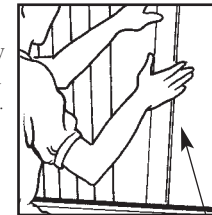

Figure 2. vertical application using grooved wainscot base trim
- Add new pieces of wainscot by pushing the grooved edge onto the tongue of piece already applied. (See Figure 2.)